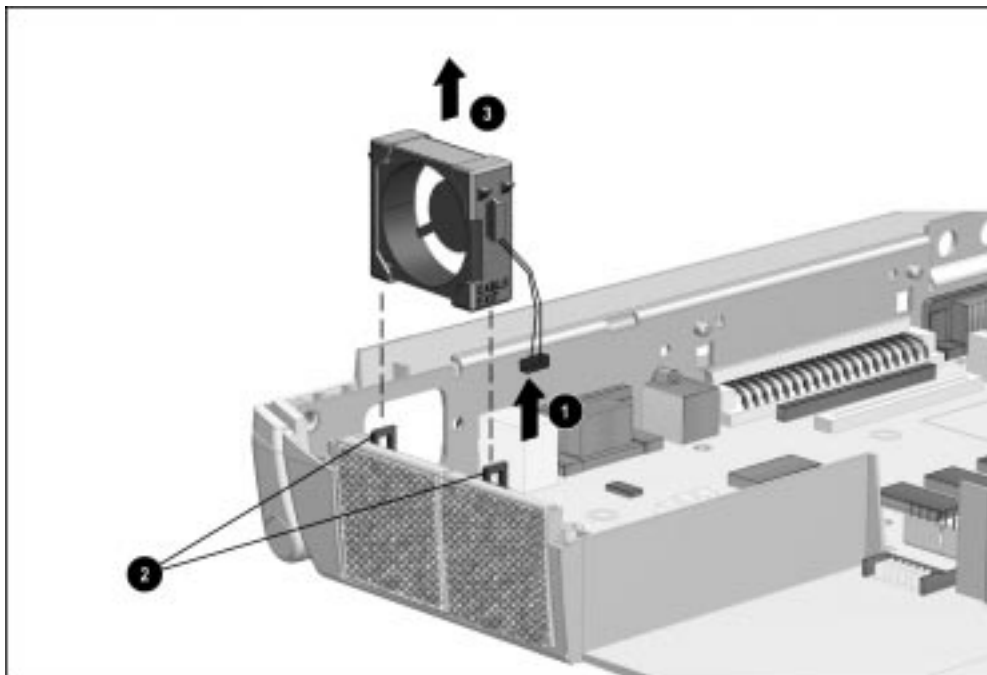

Figure 5-37. Removing the Fan Assembly
4. Use the connector removal tool to disconnect the cable ❶ connecting the fan assembly to the system board (Figure 5-37).
5. Release the fan assembly from the brackets ❷ that secure either side of the assembly by pulling the brackets apart.
6. Lift the fan assembly out of the computer ❸.